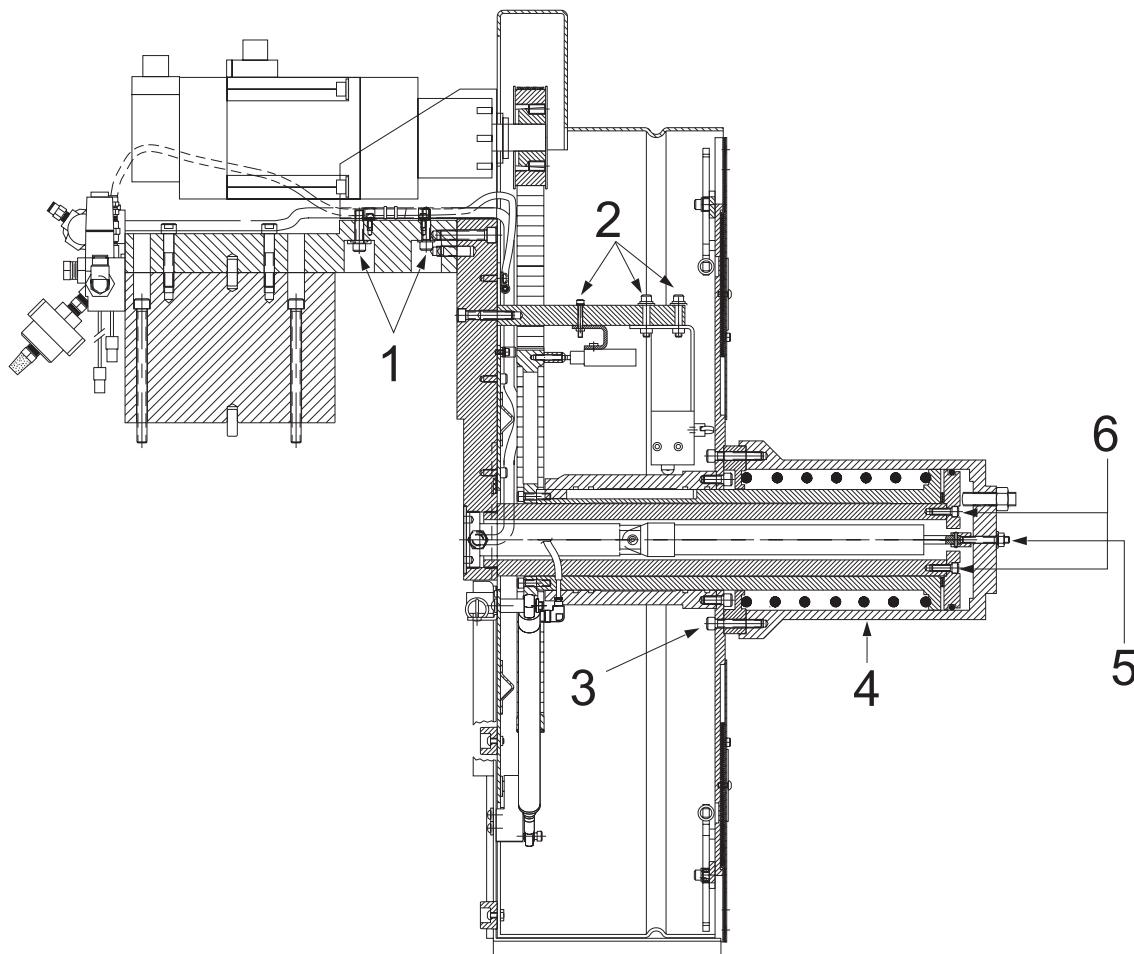

Figure 3.8-3. Carousel replacement.
6. Remove the four SHCS that mount the gearbox to the top mounting plate. (Fig. 3.8-3 #1)
8. Remove the four SHCS that secure the (2) switch brackets and place them clear of the large pulley (Fig. 3.8-3, #2).
11. Remove the six SHCS that mount the cylinder cap to the carousel. (Fig. 3.8-3, #3)
12. Remove the 7/16" hex nut that attaches the shock absorber to the cylinder cap (Fig 3.8-3, #5).
14. Remove the six SHCS that attach the locking cap to the shaft assembly (Fig 3.8-3, #6). Do not lose the two nylon washers that are behind the locking cap.
4. Install the locking cap (Fig. 3.8-3, #6). Use care to align the spacer washer so it is not damaged when the locking cap is installed.
6. Install the shock absorber nut. (Fig. 3.8-3, #5)
7. Install the six SHCS that attach the cylinder cap to the carousel (Fig. 3.8-3, #3). Tighten evenly.
10. Install the switch bracket and four SHCS. (Fig. 3.8-3, #2)
12. Install the four SHCS that mount the gearbox to the top mounting plate. (Fig. 3.8-3, #1)